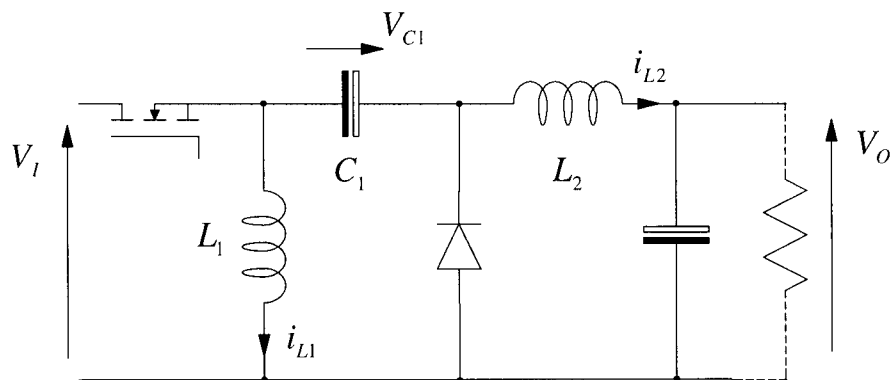

Figure 1.1 The Zeta switch-mode power supply
- (b) Figure 1.1 shows a variation on the Ćuk switch-mode power supply that is known as the Zeta switch-mode power supply.